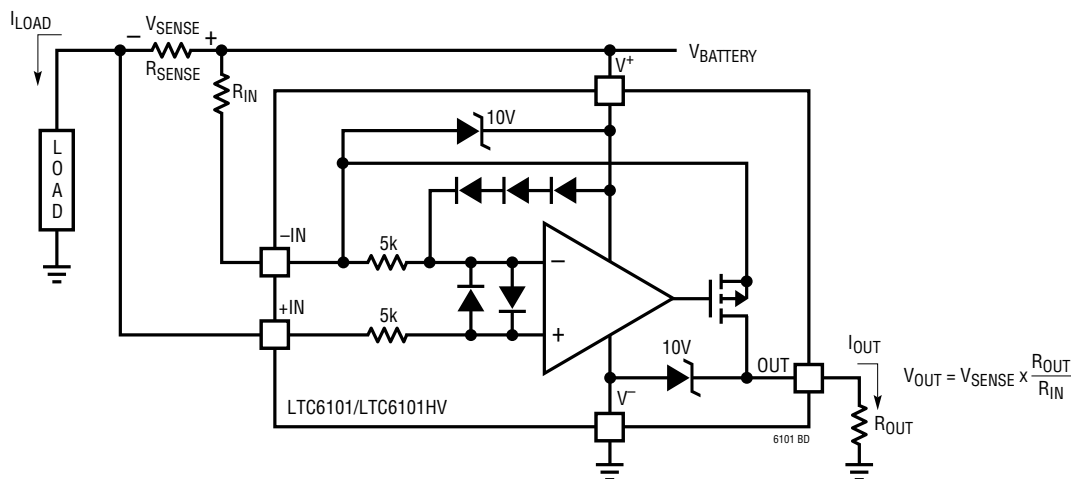

Figure 1. LTC6101/LTC6101HV Block Diagram and Typical Connection
-IN: The internal sense amplifier will drive IN⁻ to the same potential as IN⁺. A resistor (R_{IN}) tied from V⁺ to IN⁻ sets the output current I_{OUT} = V_{SENSE}/R_{IN}. V_{SENSE} is the voltage developed across the external R_{SENSE} (Figure 1).
The LTC6101 high side current sense amplifier (Figure 1) provides accurate monitoring of current through a user-selected sense resistor. The sense voltage is amplified by a user-selected gain and level shifted from the positive power supply to a ground-referred output. The output signal is analog and may be used as is or processed with an output filter.
The speed is also affected by the external circuit. In this case, if the input changes very quickly, the internal amplifier will slew the gate of the internal output FET (Figure 1) in order to maintain the internal loop. This results in current flowing through R_{IN} and the internal FET. This current slew rate will be determined by the amplifier and FET characteristics as well as the input resistor, R_{IN} . Using a smaller R_{IN} will allow the output current to increase more quickly, decreasing the response time at the output. This will also have the effect of increasing the maximum output current. Using a larger R_{OUT} will decrease the response time, since $V_{OUT} = I_{OUT} \cdot R_{OUT}$. Reducing R_{IN} and increasing R_{OUT} will both have the effect of increasing the voltage gain of the circuit.